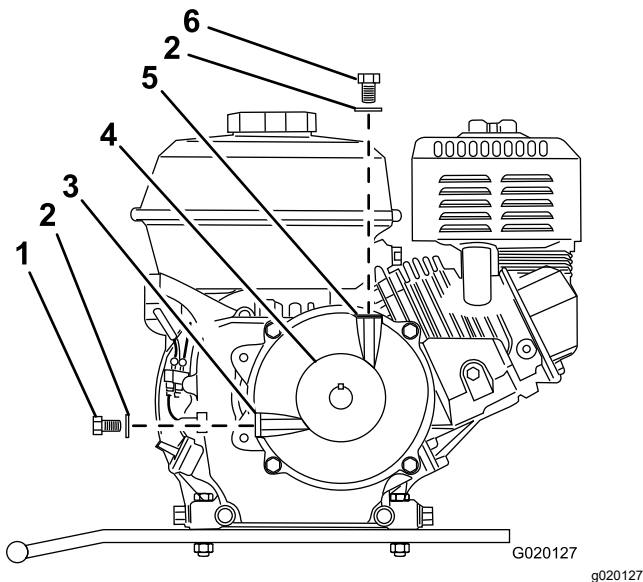

Figure 62
6. Remove the filler bolt and washer from the filler port on the top of the reduction case (Figure 62).
7. Remove the oil-level-check bolt and washer from the oil-level port in the side of the reduction case (Figure 62).
12. Install the oil-level-check bolt and washer to the oil-level port of the reduction case, and tighten the bolt (Figure 62).
13. Install the filler bolt and washer to the filler port of the reduction case and tighten the filler bolt (Figure 62).